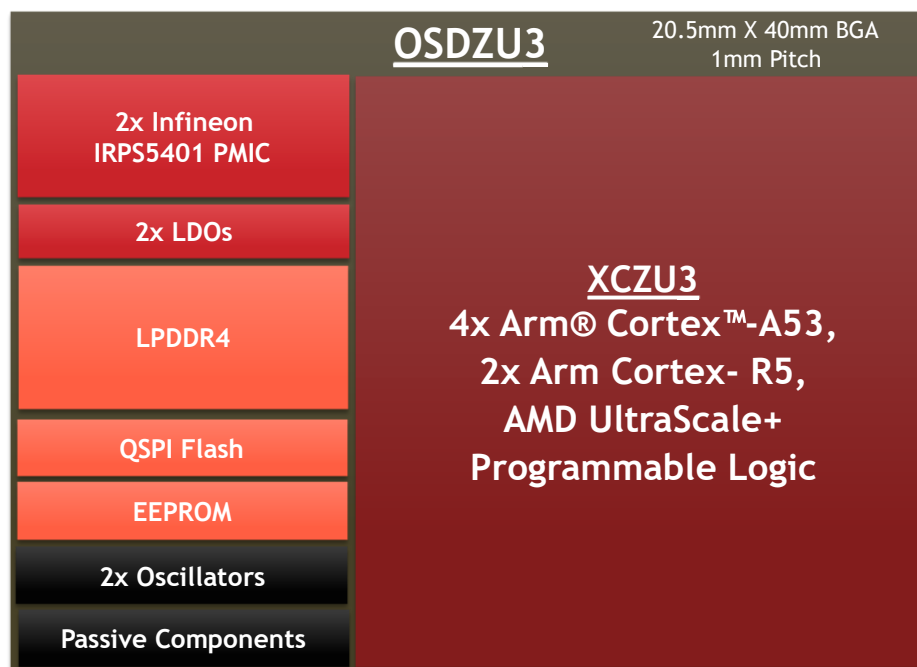

Figure 6-1 - OSDZU3 Internal Components
The OSDZU3 integrates the AMD XCZU3 Multi-Processor System on Chip (MPSoC). Figure 6-1 shows a block diagram for the OSDZU3. Refer to Figure 4-1 and the references listed in Section 3 for more details. Along with the XCZU3 are two (2) Infineon PMICs, two LDOs, LPDDR4 Memory, an EEPROM for hardware configuration information, a QSPI Flash memory, a 33.333 MHz Oscillator for the primary clock input, 32.768 kHz Crystal for the real time clock, and the associated resistors, capacitors, and inductors carefully placed into a single design-in-ready package. The following subsections contain specific device information needed for the integrated components to design your system with the OSDZU3. Specifics on the Power Management System will be covered in Section 7.